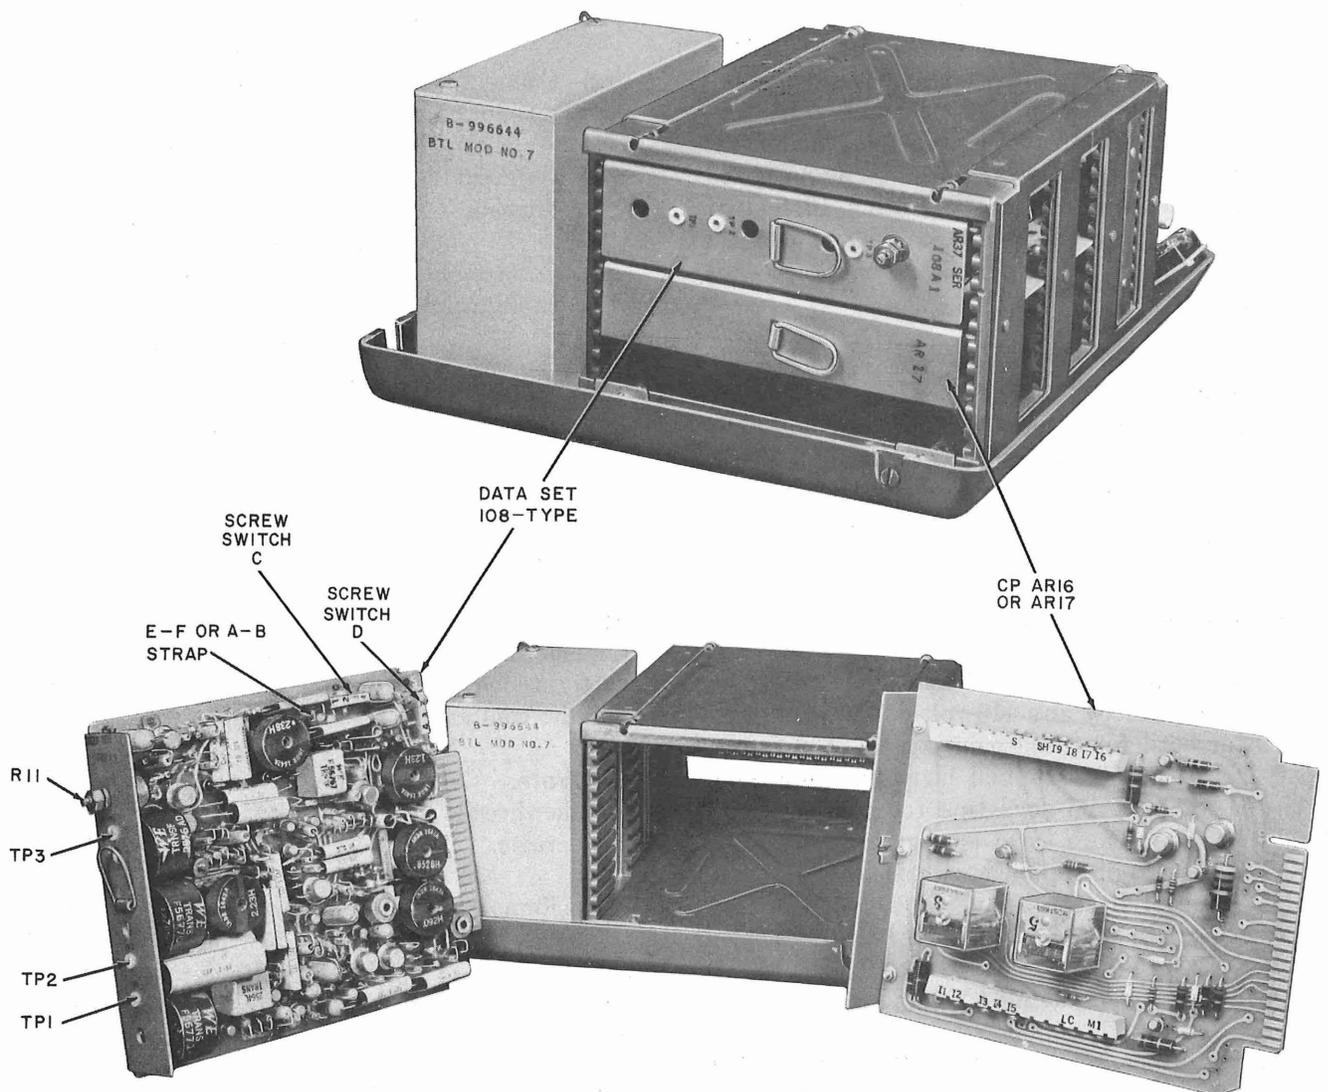

Fig. 3—Data Set 108-Type and Data Auxiliary Set 820D-Type
3.01 Refer to Fig. 3 for a pictorial view of all components discussed in the following paragraphs. Remove cover of DAS 820D1 as
4.01 The desired options are selected by adjusting screwdriver-actuated switches located on AR17 CP (Fig. 3). Table A defines which screw(s) is opened or closed for each option. These screws are tightened to close the contact or loosened to open the contact.
5.02 Screw switch D (Fig. 3) on Data Set 108A- or 108C-type was closed to provide maximum sensitivity (maximum gain of receive-amplifier stage) during manufacturing tests. The gain of the stage may be reduced in 4-dB steps and should be adjusted to meet the requirements of the individual installation. Table B shows the condition of the
5.04 Connect terminals + and - of TTS-28 Portable Station Test Set to TP1 and TP2 of the data set (Fig. 3). Set FUNCTION switch of TTS-28 to DBM 900 ohm TERM 0 position. Connect power to DAS. Adjust potentiometer R11 on the data set for output level specified on service order or circuit layout record card.